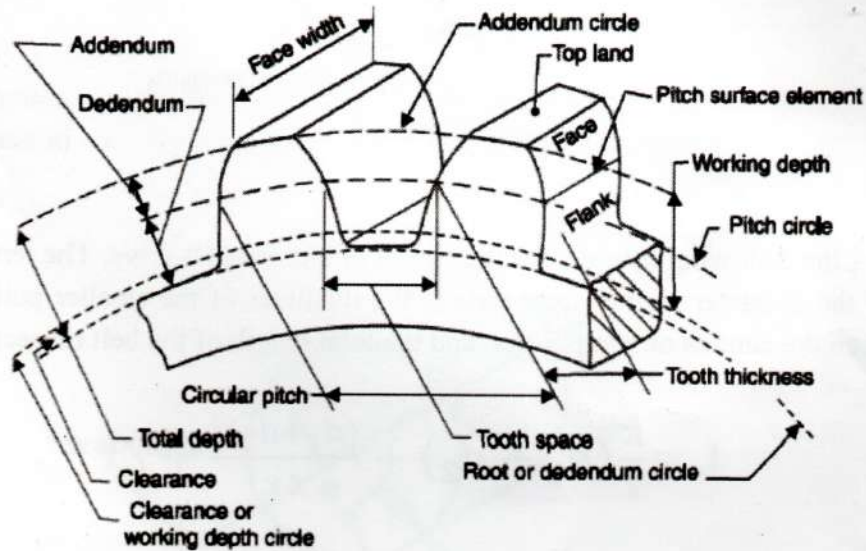

Figure 5
- b) A pair of gears with 40 and 20 teeth, respectively, are rotating in mesh, with the speed of the smaller gear being 2000 r. p. m. The addendum length is 5 mm and the module is 5 mm. Consider, the small gear is the driver. You may refer the Figure 5 for the terminology of gears.